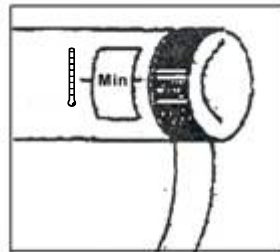

Fig. 3
- Select the required temperature on the temperature setting dial (#8). Fig. 3